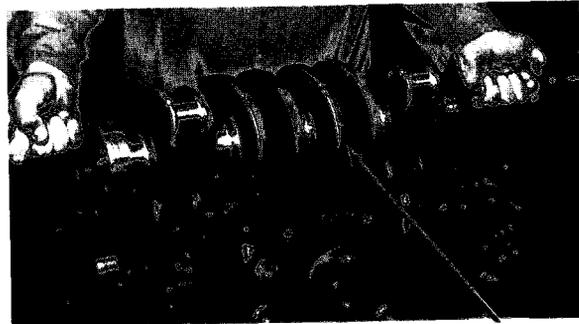

Figure 6-4
9. Remove crankshaft (5, Figure 6-4).